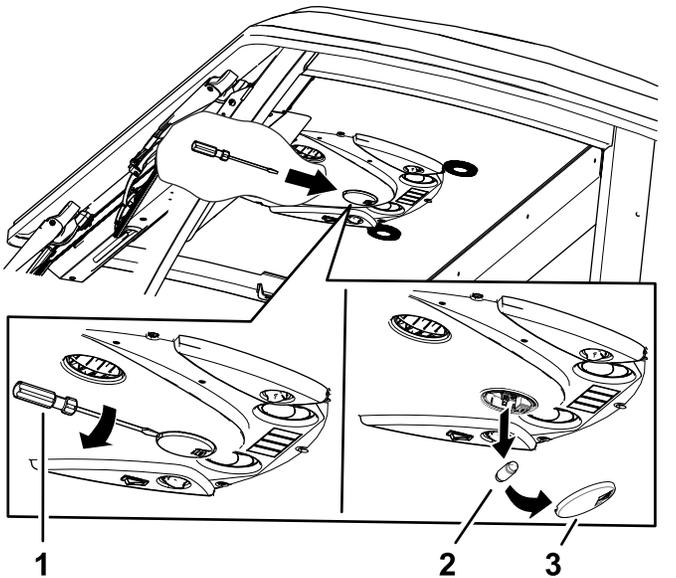

Figure 90
1. Use a screwdriver to remove the light lens from the control panel. (Figure 90).
2. Remove the bulb from the light base (Figure 90).